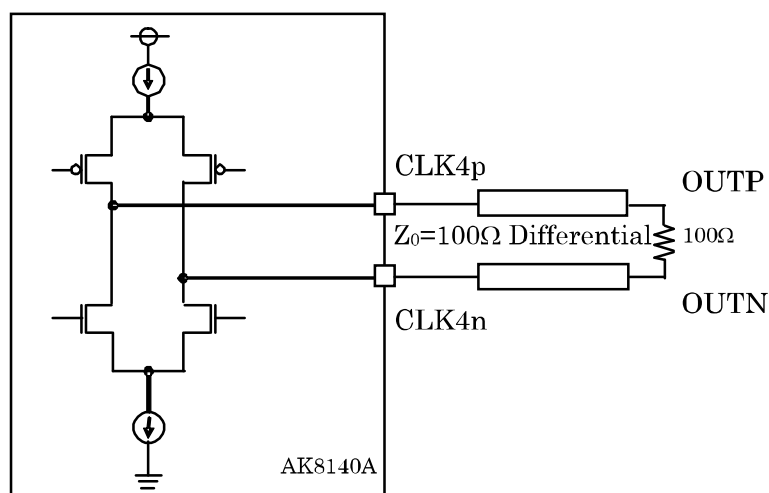

Figure 3. CLK4p/n LVDS Clock measurement circuit
(1) LVDS clock measured at the circuit shown in Figure 3.
(2) When ODIV4 divides the PLL1/2 Clock.
(3) When ODIV4 divides the Input Bypass Clock by even dividing value.
(4) When ODIV4 divides the Input Bypass Clock by odd dividing value.